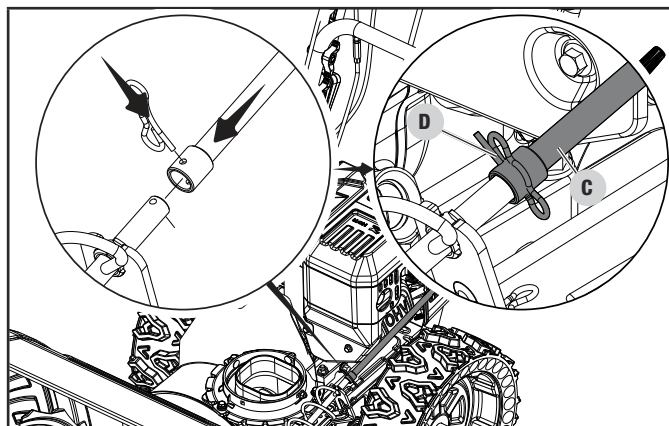

Figure 8B
2. Slide the chute crank (C) coupler over the shaft of the spiral worm gear at the chute gear. Turn the chute crank (C) until the connecting hole lines up. Push the B-clip (D) through the connecting hole (Fig. 8B magnified circle view).